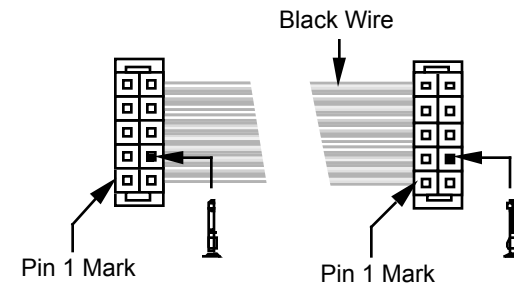

Figure 11
- Locate the pre-assembled ribbon cable. Lay the cable flat as shown in Figure 11, **with the black wire at the top and the connector holes facing up.**